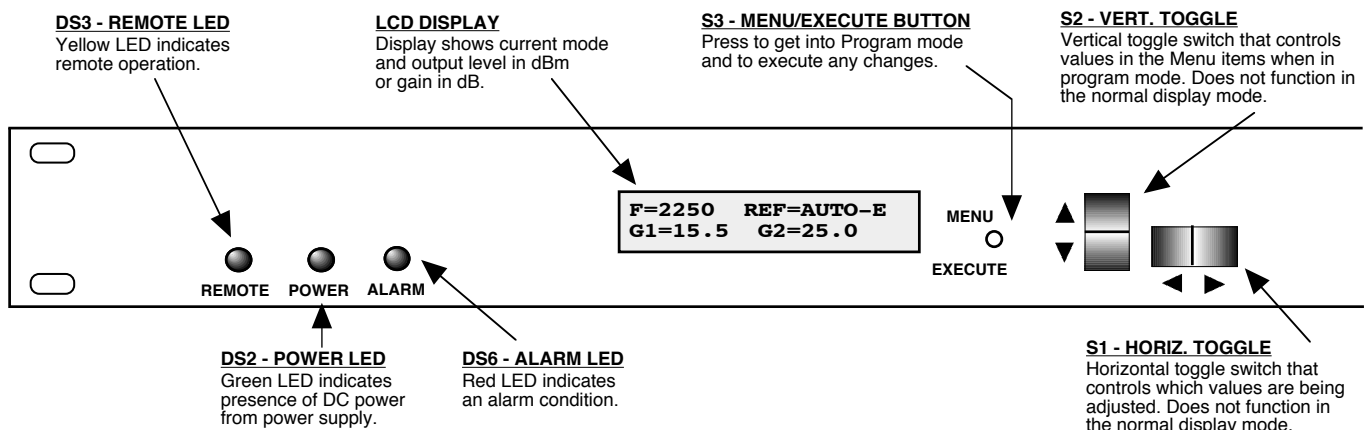

FIGURE 2.2 3116-22-2223# Front Panel Controls and Indicators
Figure 2.2 shows the front panel controls and indicators.
7. Be sure DS2 (green, DC Power) is on and DS6 (red, Alarm) is off (Figure 2.2).
Alarm indications appear on the LEDs (see Figure 2.2).